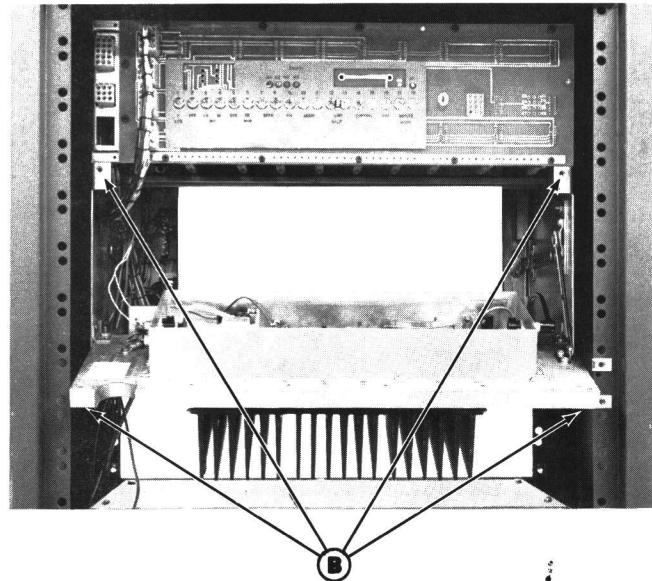

Figure 4 - Access to Power Amplifier Rear View
1. Remove the top two screws (B) on the Intermittent or Continuous Duty Power Amplifier. Refer to Figure 4.